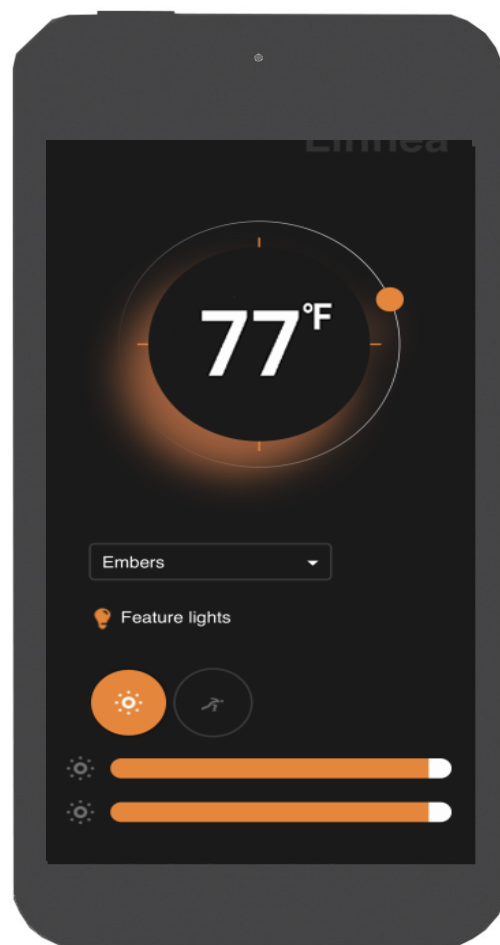

Fig 2.
You will then be able to single press the home screen to open up the app's main control screen (fig 2).
5. Single press to select skill, which will then open up the below page. **Fig 2.**